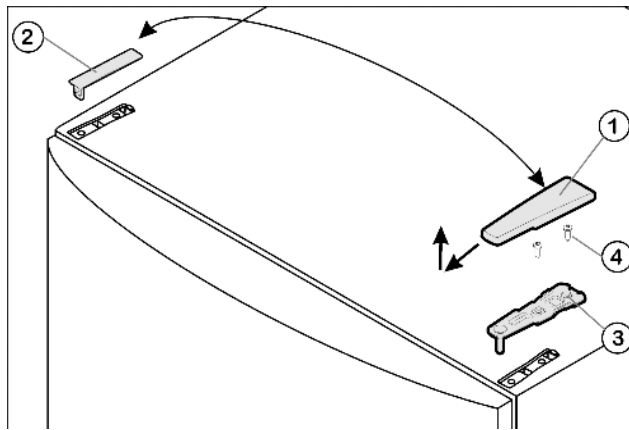

Fig. 4
- ▶ Pull off the cover Fig. 4 (1) forwards and upwards.
- ▶ Lift off the cover Fig. 4 (2).
- ▶ Unscrew the upper turn hinge Fig. 4 (3)(2x Torx® 25) Fig. 4 (4) and lift it off.
- ▶ Insert the upper turn hinge Fig. 4 (3) in the door on the new hinge side.
- ▶ Screw the upper turn hinge **firmly** into place (**with 4 Nm**) (2x Torx® 25) Fig. 4 (4). Possibly make preliminary holes with a bradawl or use a cordless screwdriver.
- ▶ Apply the cover Fig. 4 (1) and cover Fig. 4 (2) to the opposite side from the outside and snap them into place.